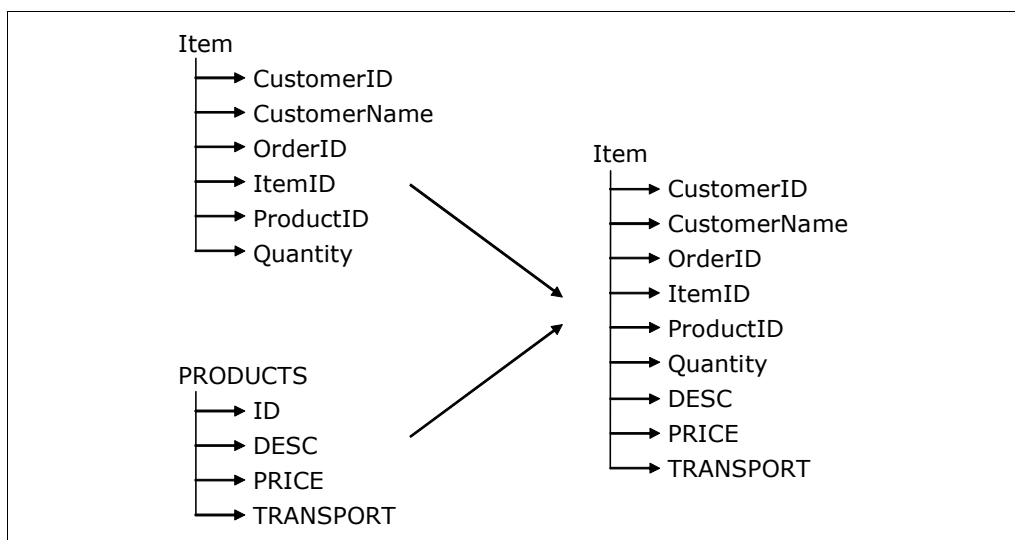

Figure 12-10 Aggregating item record structure and database record structure
- The first set contains a list of the aggregations of the original items and the fields returned from the products database, as shown in Figure 12-10.